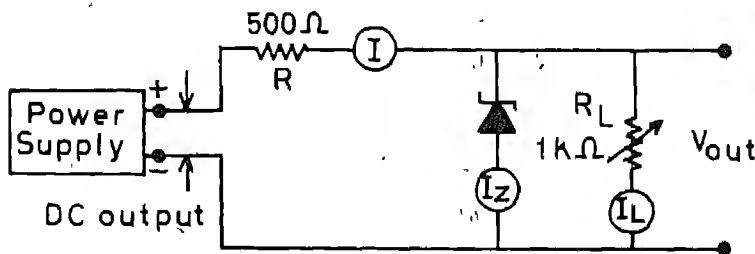

Fig 6 8
3. Now connect the circuit as shown in Fig 6 7 (b) and note I for various values of V (as in step 2 above) and plot I as a function of V to obtain
the reverse characteristics of the zener diode. The forward and reverse characteristics would be as shown in Fig. 6 7 (c) Find the breakdown voltage V_z from the curve and calculate $R_z = V_z/I$
the circuit as shown in Fig 6 8. If the power supply voltage rises, it tends to increase the V_{out} . This results in the increase in the zener current I_z . Therefore, the total current $I = I_z + I_L$ also increases. Because of the increase in the total current I , the drop across R also increases. The increase in the drop across R , with proper design, should be equal to the increase in the supply voltage V . Therefore, the V_{out} will drop to its original value. If the supply voltage decreases, then I_z also decreases resulting in the decrease in the total current. Because of the decrease in current I , the drop across R also decreases, thus maintaining the predetermined level of the V_{out} .